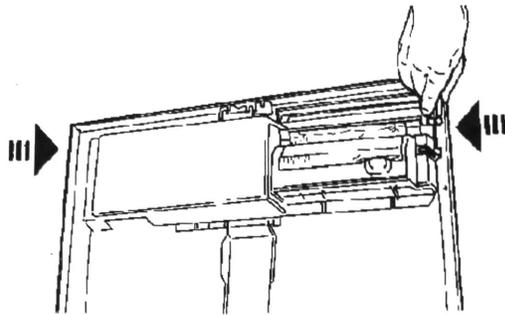

Figure 5
- Using a flat blade screwdriver, release the two (2) tabs securing the timer cover, and remove the cover as shown in Figure 5.